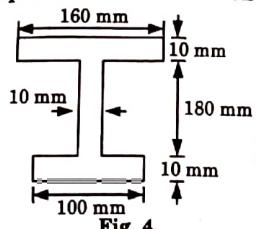

Fig. 4.
- e. Find the shape factor of the I-section shown in Fig. 4.